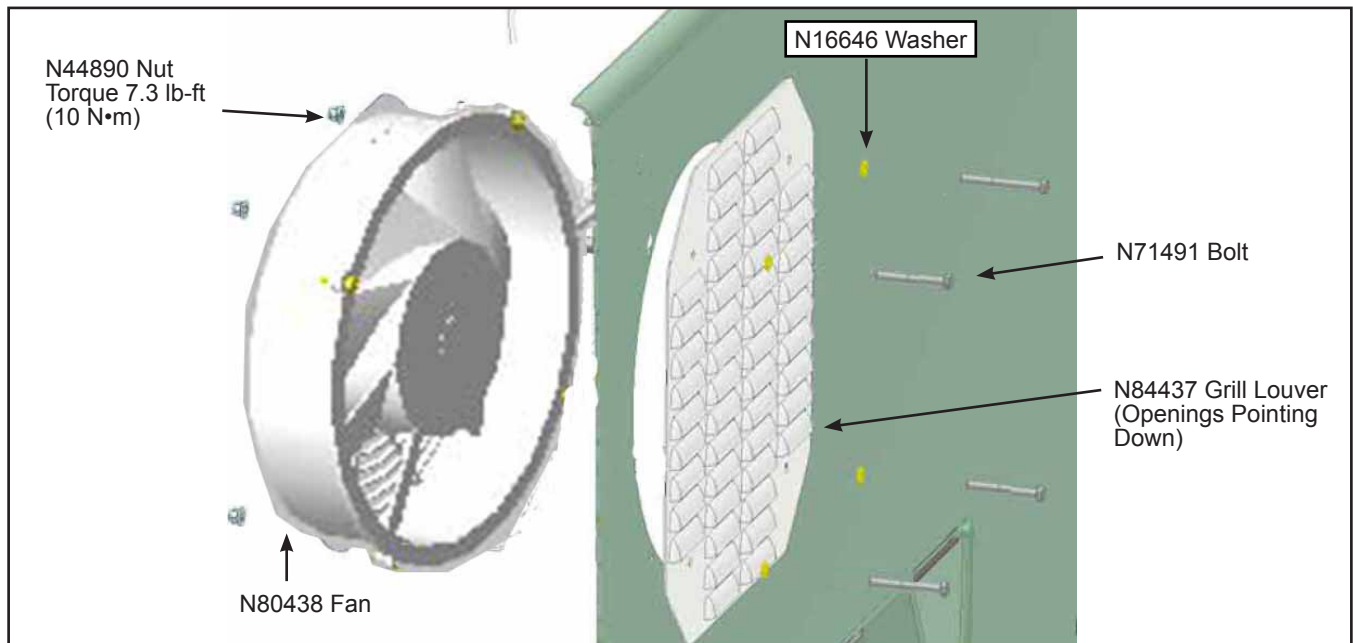
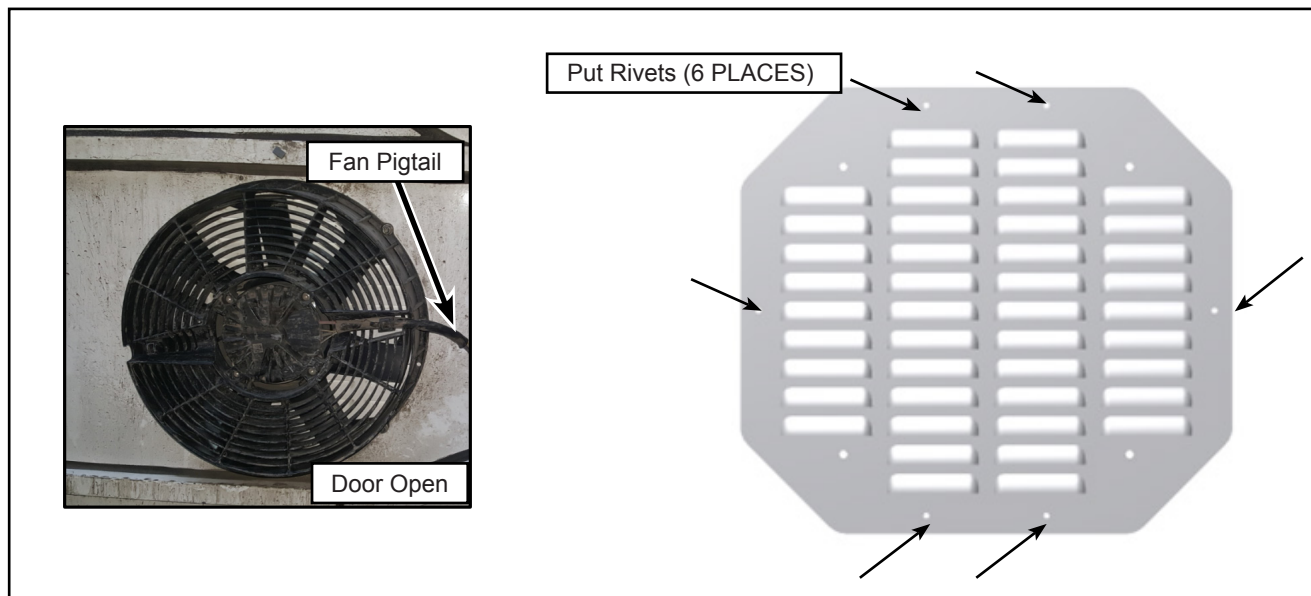

Figure 3 - Install Grill Louver and Electrical Fan
Figure 4 - Install Fan Cable Tie Mount and the Six Grill Louver Rivets
- 1.8. Install the grill louver N87563-01 onto the engine door (see Figure 3).
- 1.9. Place the engine fan N80438 on the inside to position the wiring pigtail on the right hand side, towards the center of the engine door. Install the four N71491 bolts, N16646 washers and N44890 nuts using 5/32" hex socket, a 10mm socket wrench and a torque wrench (see Figure 3 and Figure 4).
- 1.10. Torque the nuts to 7.3 lb-ft (10 N•m) and apply torque seal. Install the six rivets in the holes present on the grill louver (see Figure 3 and Figure 4).